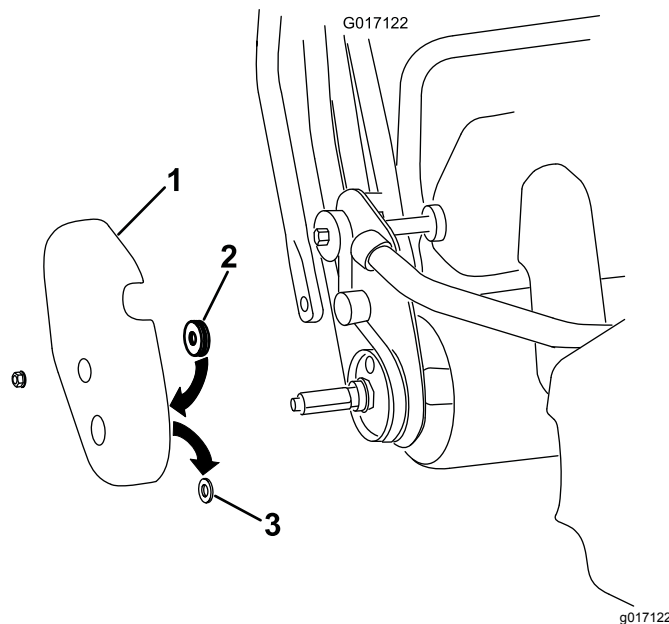

Figure 9
- A. Remove the right side drum cover from the machine (Figure 9).
- B. Remove and discard the rubber grommet from the axle hole in the drum cover (Figure 9).
- C. Affix the felt seal to the inside of the cover positioning it around the axle hole (Figure 9).